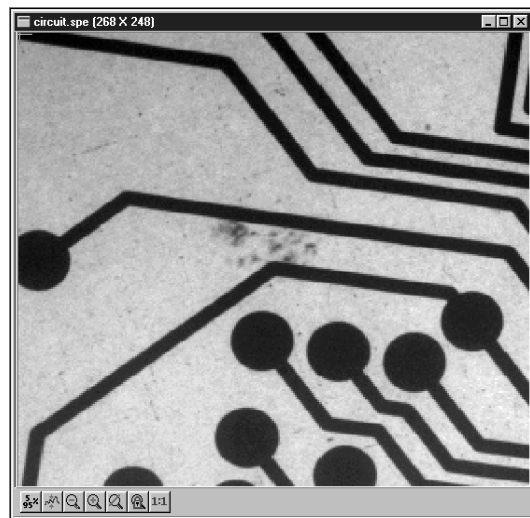

Figure 98. Circuit.spe image
3. From the data directory select the image file called CIRCUIT.SPE. Click on the **OK** button. A window of the appropriate dimensions should appear immediately. The image display (Figure 98) may take a few seconds, depending on the speed of the computer.
1. Click on  (5%-95%) (located beneath the displayed image as shown in Figure 98). You will observe a moderate brightening of the image as it autoscales on the central 90% of the image histogram. The brightest (pixels with high dark charge) and the darkest pixels (pixels with low response) are ignored.